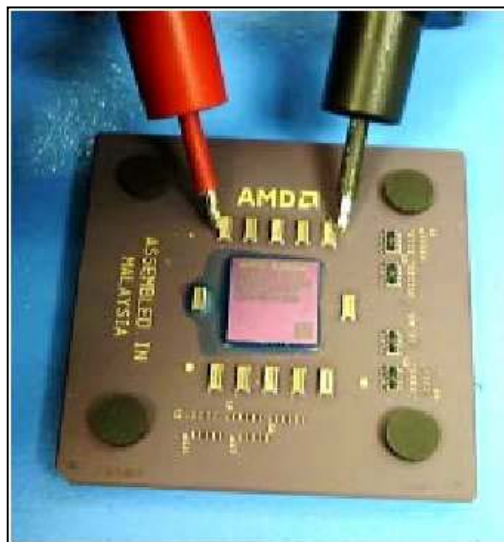
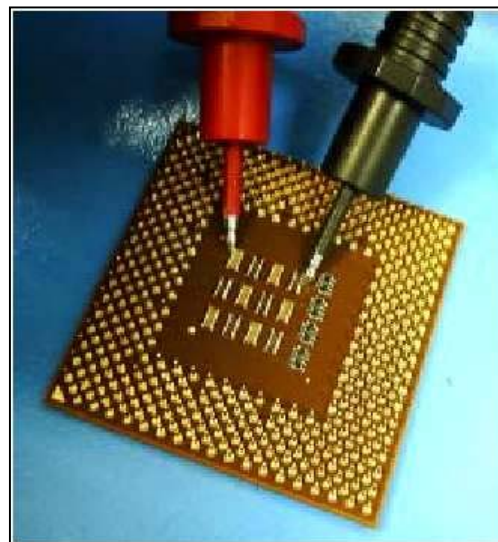

Figure 1
Figure 2
- With an Ohmmeter, measure the Vcc to Vss resistance of each unit according to Figure 1 for ceramic packages, and according to Figure 2 for organic packages. Use the indicated orientation of the colored probes. The black probe is Vss in both figures.
- Each digital multi-meter probe in Figures 1 and 2 is only making contact with one edge of a capacitor.